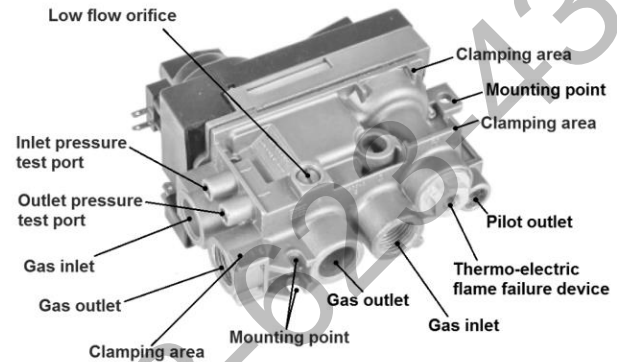

Figure 18 – GV60 Valve Configuration (Side)
When threads are tightened, the valve must be held at the designated clamping areas (see figure 18). DO NOT apply pressure to top casting or plastic cover.
1. Connect a pressure manometer to the valve outlet pressure tap. Pressure tap is opened by turning the screw counter-clockwise (see figure 18).